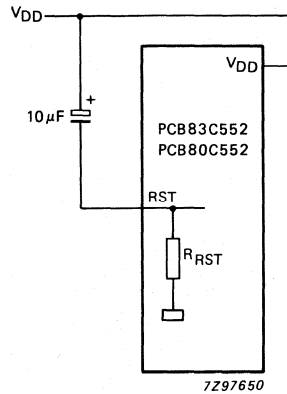

Fig. 17 Power-on reset.
N.B. It can be seen, that the short reset pulse from Timer T3 cannot discharge the power-on reset capacitor (see Fig. 17). Consequently, when the watchdog timer is also used to reset external devices this capacitor arrangement should not be connected to the RST pin, and an extra circuit should be used to perform the power-on reset operation. It should be remembered that a Timer T3 overflow, if enabled, will force a reset condition to the 83C552 by an internal connection, whether the output RTS is tied LOW or not.
**Power-on reset** (see Fig. 17)